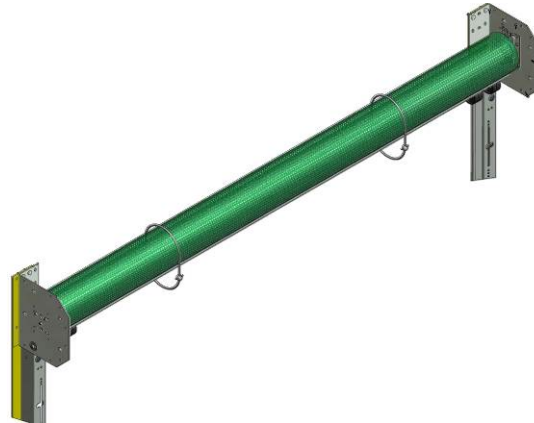

Figure 10, Tie Up Roller Assembly
8. Lower your door fully, when the fabric and windbars are down you will be able to check the top tube is level. Raise your door, the fabric and windbars will now stack tightly around the top tube which will make tensioning the spring easier in section 11 below. Tie up the roller assembly (Figure 10).